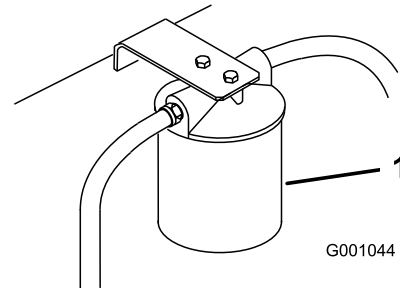

Figure 87
- Place drain pan under filter, remove the old filter and wipe the filter adapter gasket surface clean (Figure 87).